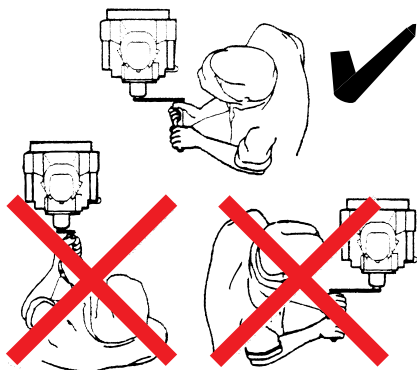

Figure 17. Operating Position
3. Observe the correct operating position when turning the starting handle (Figure 17).